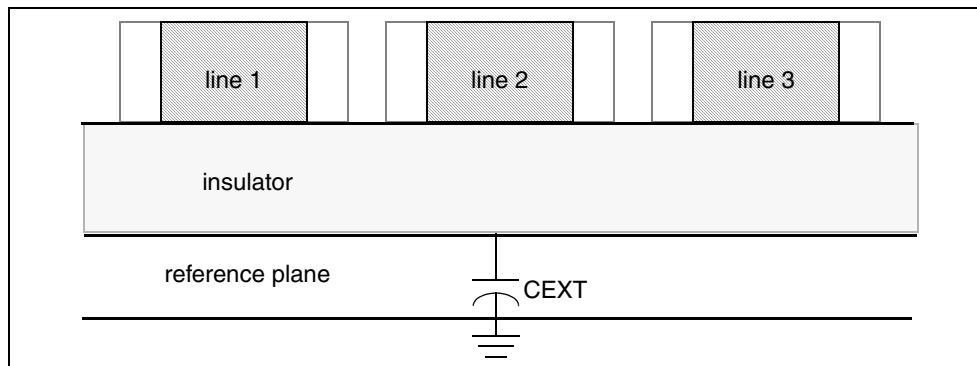

Figure 83 Planar Transmission Line, DLEV=1, Microstrip
- DLEV=1 – microstrip dual dielectric. This planar conductor has a single reference plane and two dielectric layers (see Figure 83 on page 288).